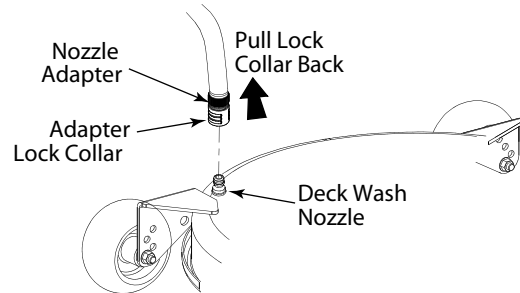

Figure 6-2
- Pull back the lock collar of the nozzle adapter and push the adapter onto one of the deck wash nozzles at either end of the mower deck. Release the lock collar to lock the adapter on the nozzle. See Figure 6-2.